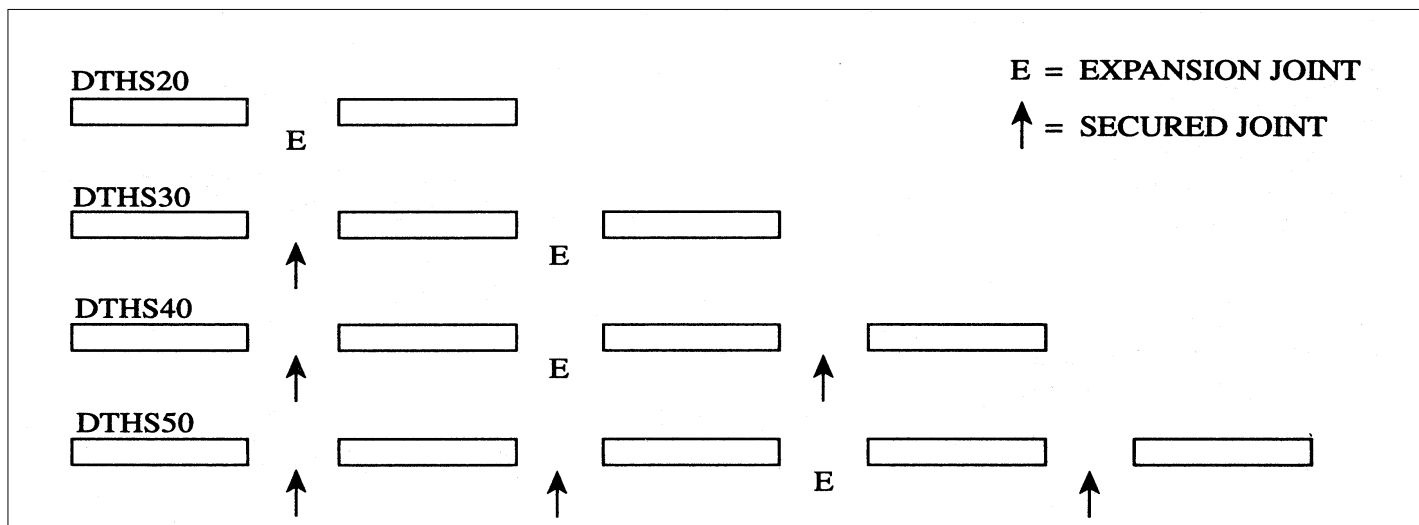

Figure 1-13
1. Secure reflectors together with supplied reflector clips at points indicated by arrows (see Figure 1-13). Make sure to leave an expansion joint.